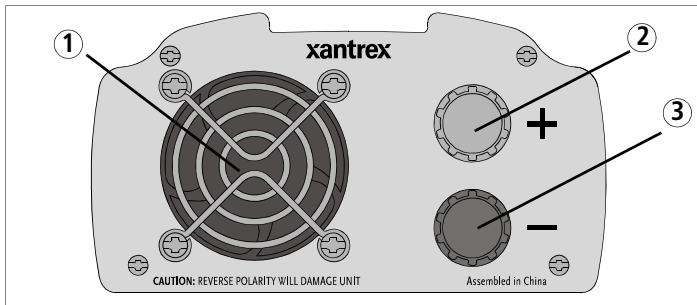
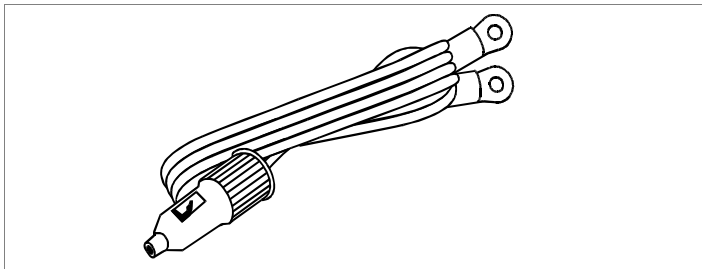
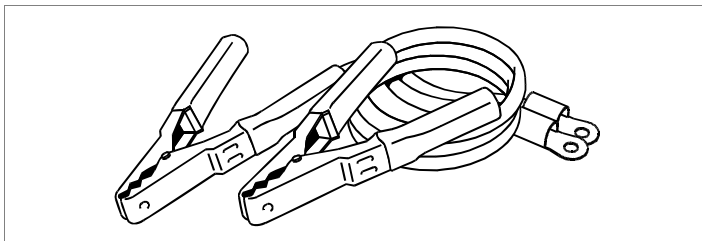

Figure 4 DC Panel of XPower 400 Plus and XPower 700 Plus
Figure 5 Lighter Plug Cable
Figure 6 Cable for Direct Connection to 12 Volt Battery
Figure 4 shows the DC panel of the XPower 400 Plus and XPower 700 Plus inverters.
3. The XPower 175 Plus has a power cord with lighter plug hard-wired into it, so you do not need to complete this step. If you have a XPower 400 Plus, take the power cord equipped with the lighter plug (Figure 5) and place the ring terminals over the two cabling terminals on the back of the inverter. (The cabling terminals are shown in Figure 4.)
3. Take the cables equipped with battery clips on one end (Figure 6) and place the ring terminals over the two cabling terminals on the back of the inverter. (The cabling terminals are shown in Figure 4.)